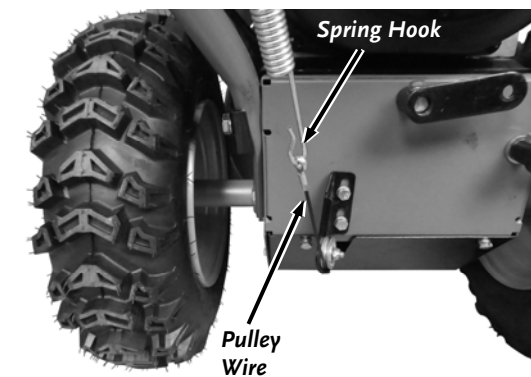

Figure 11
7. Attach the Spring Hook of the Drive Control Cable into the Pulley Wire at the left side of the machine (**Figure 11**).